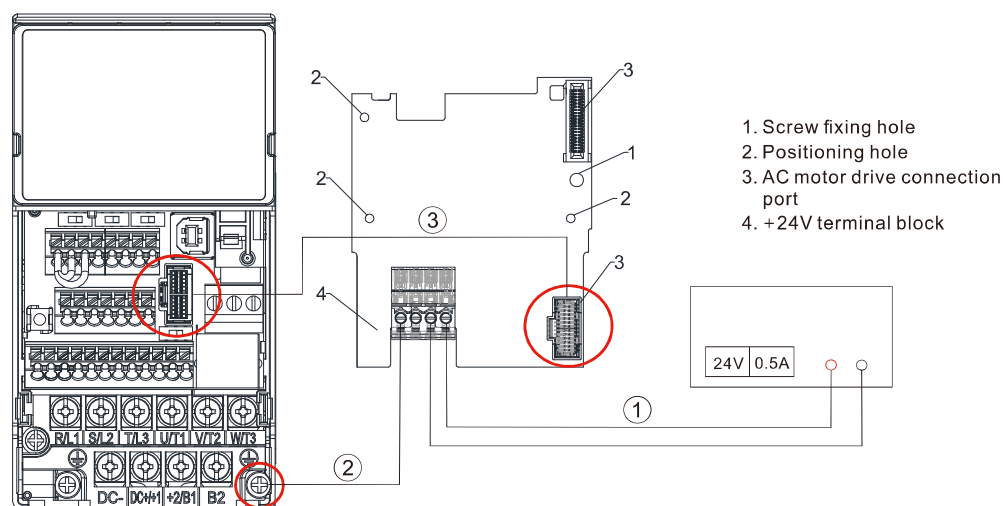

Figure 8-50
**Operating procedures** (refer to the mark ①②③ in the Figure 8-50)
- ① Choose the power supply or the host to connect the positive and negative electrodes to +24V power card.
- ② Connect the ground terminal of +24V power card and the ground terminal of the drive.
- ③ Connect one side of the cable to the connection port of the drive and another side to the +24V power card's.